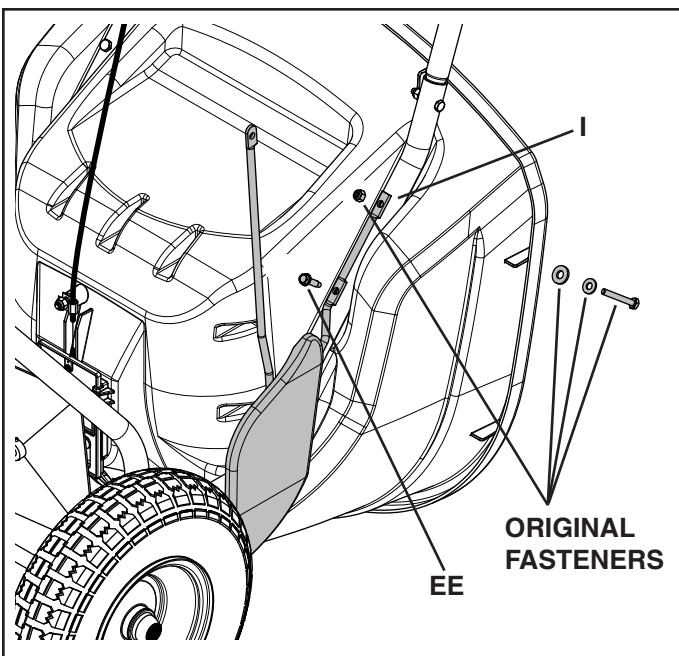

**FIGURE 7**
**STEP 7: (SEE FIGURE 7)**
- Assemble the deflector rod (I), washer (GG), and connecting rod (H) to the deflector (F) using the thread forming screw (EE). Tighten the screw until it is just snug and then back it off 1/4 turn or until the deflector rod (H) will slide freely.